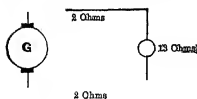

FIG. 27: A lamp in series with line wires across a generator.
**Prob. 1-2.** (a) What is the total resistance of the circuit connected across the terminals of the generator in Fig. 27?